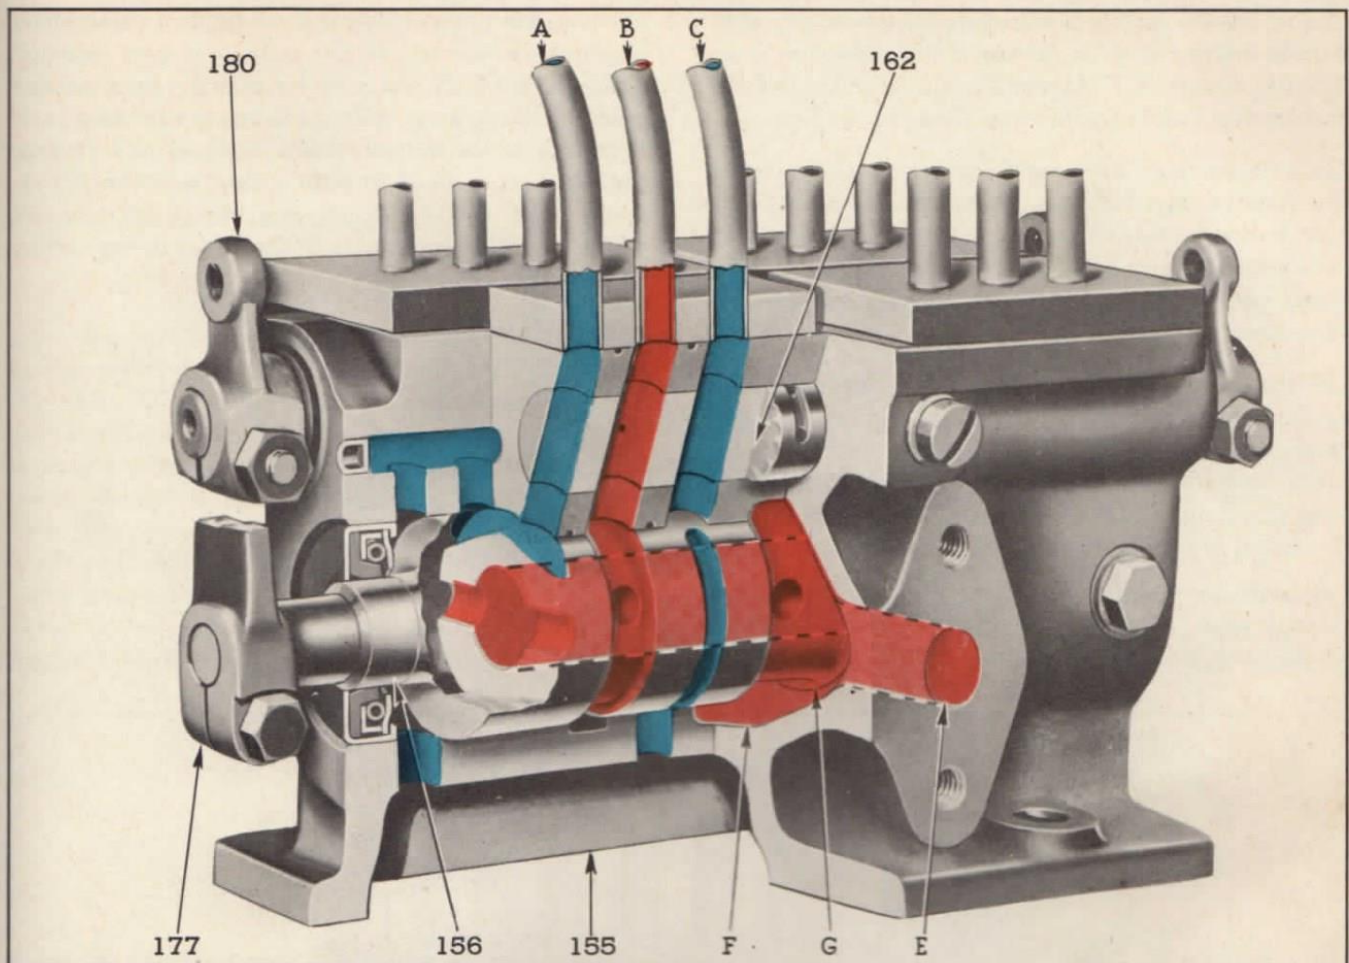

Fig. 18—Position of Selector and Shut-Off; Also Oil Flow Through Twin or Quad Control Valve in Neutral
Neutral—Control Valve—When the selector valve is set for neutral position, as shown in Fig. 18, tube "B" feeds oil under pressure to the reverse gear for
4. Check oil pipe fittings and bolts occasionally to guard against oil leaks in the hydraulic system. Figs. 18, 19, and 20 show the arrangement of the suction lines to the hydraulic oil pump. All joints on the suction side of the pump must be kept tight to prevent air being drawn into the oil stream. Air in the line will interfere with dump valve and clutch operation.